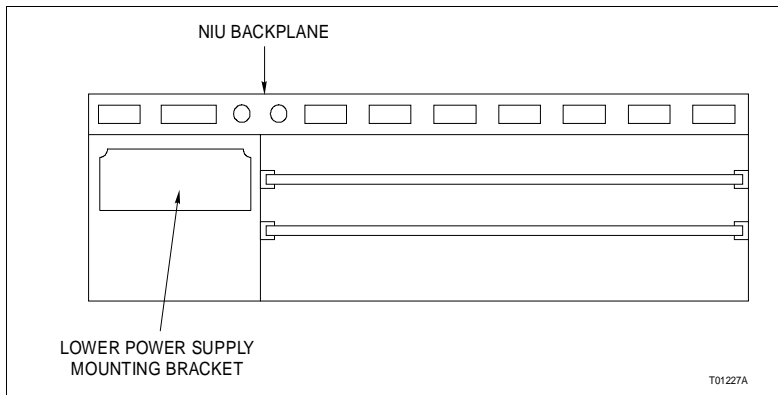

Figure PR57-2. Lower Power Supply
- 6. Slowly pull the lower power supply mounting bracket out of the NIU card cage (Fig. PR57-2), labelling and disconnecting all cables from the lower power supply while doing so.